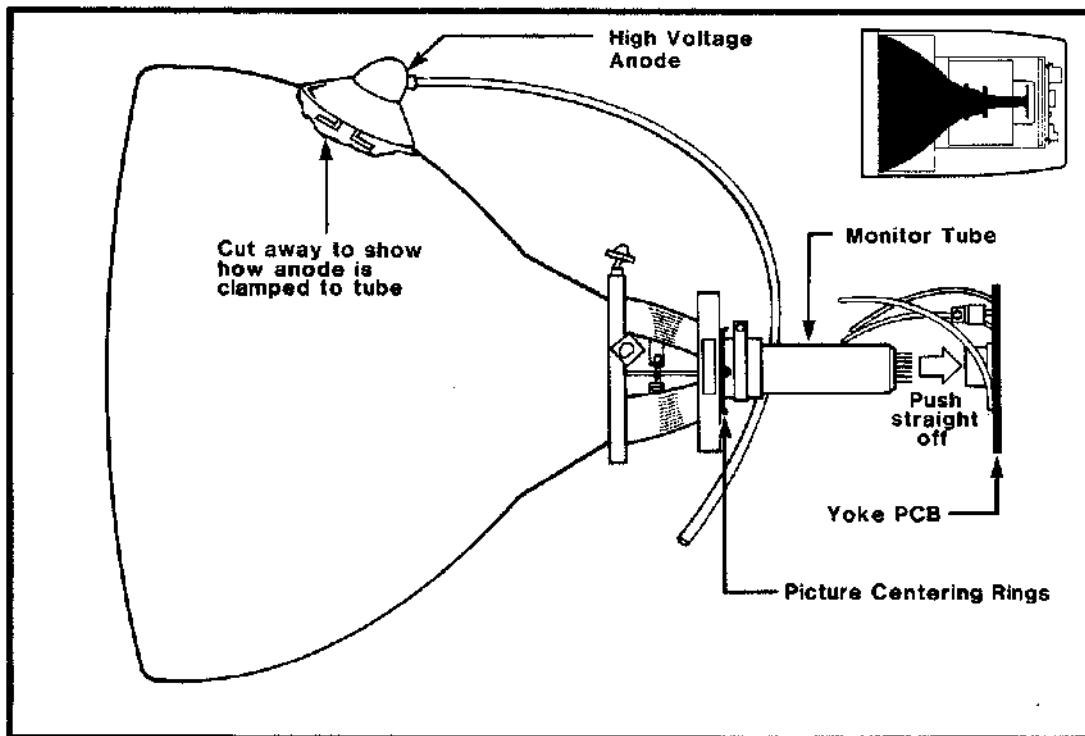

Figure 6-7: REMOVING THE VIDEO TUBE CONNECTORS
5. Disconnect the CRT connector card. This is the small circuit card that is plugged into the pointed end of the video tube. Remove this card by gently pulling it away from the tube neck with a light rocking motion. With the CRT connector card removed, gently disconnect the thick red wire connected to the side of the tube. This wire, called the high voltage anode, should be handled with caution as some voltage may still be present in the circuitry (Figure 6-7).
3. Remove the CRT anode. This is the thick red wire connected to the upper portion of the video tube (Figure 6-7). Do not remove this wire until the C-5 has been turned off and unplugged for at least 15 minutes. Being very careful not to chip or break the surrounding glass tube, lift up on the rubber cup at the tube connection. The two steel wires that hold the connector in place should be visible. Push down on the top of the rubber cup and move the connector to one side until one of these wires comes out of the hole in the tube. The wire will now come right off.